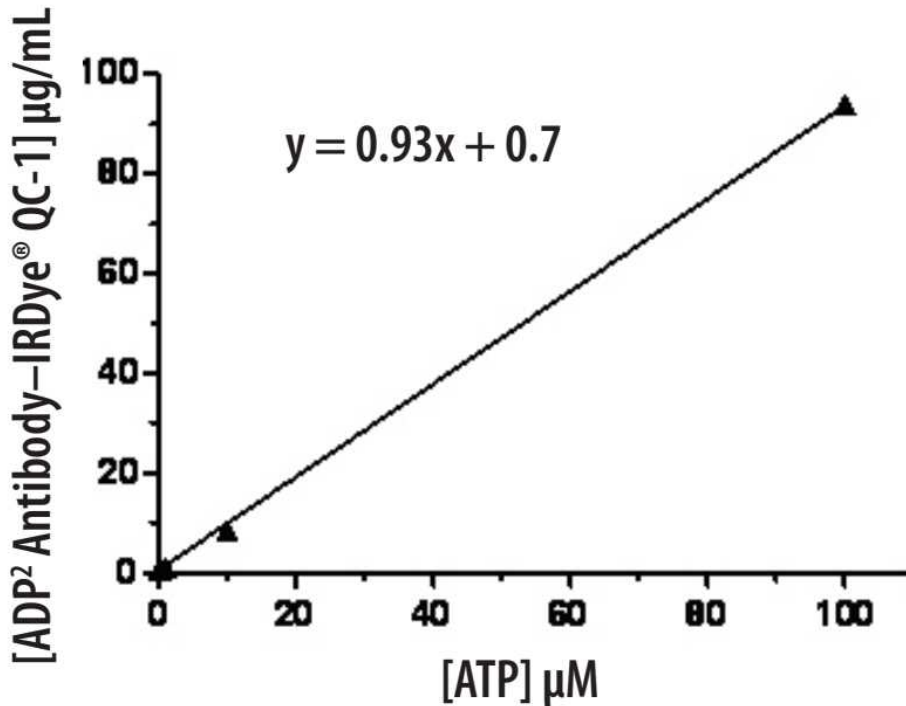

Figure 3. Linear relationship between [ATP] and [ADP² Antibody–IRDye® QC-1]. The antibody concentration can be calculated using the equation: $y = 0.93x + 0.7$
As shown in **Figure 3**, the relationship between ATP and ADP² Antibody–IRDye® QC-1 concentrations is linear. (Though shown for 0.1–100 μM ATP, the relationship is valid to 1,000 μM ATP.) Therefore, the quantity of ADP² Antibody–IRDye® QC-1 for enzyme reactions that use between 0.1 μM and 1,000 μM ATP can be determined using the equation $y = mx + b$, where x = [ATP] (μM) in the enzyme reaction, y = [ADP² Antibody–IRDye® QC-1] (μg/mL) in the 1X ADP Detection Mixture, m (slope) = 0.93, and b (y-intercept) = 0.7. We recommend a final reaction volume of 20 μL (384-well plate) or 50 μL (96-well plate).
Figure 3 will produce excellent results for most users. If it does not produce the results you require, refer to **Section 7.1** for instructions on titrating the antibody in the buffer system ideal for your enzyme target.
Final concentrations in the detection mixture should be 8 nM tracer, 1X Stop & Detect Buffer B, and the antibody concentration calculated in **Figure 3 (Section 4.2)**. An example is shown below:
- 7.1 Using an antibody concentration calculated using the equation in **Figure 3 (Section 4.2)** will produce excellent results for most users. If it does not produce the results you require, we recommend that you titrate the ADP² Antibody–IRDye® QC-1 in the buffer system ideal for your enzyme target. This titration will determine the optimal antibody concentration for your assay conditions. The nucleotide substrate concentration in the enzyme reaction generally determines the appropriate concentration of antibody. We recommend using the EC₂₀ concentration of antibody.